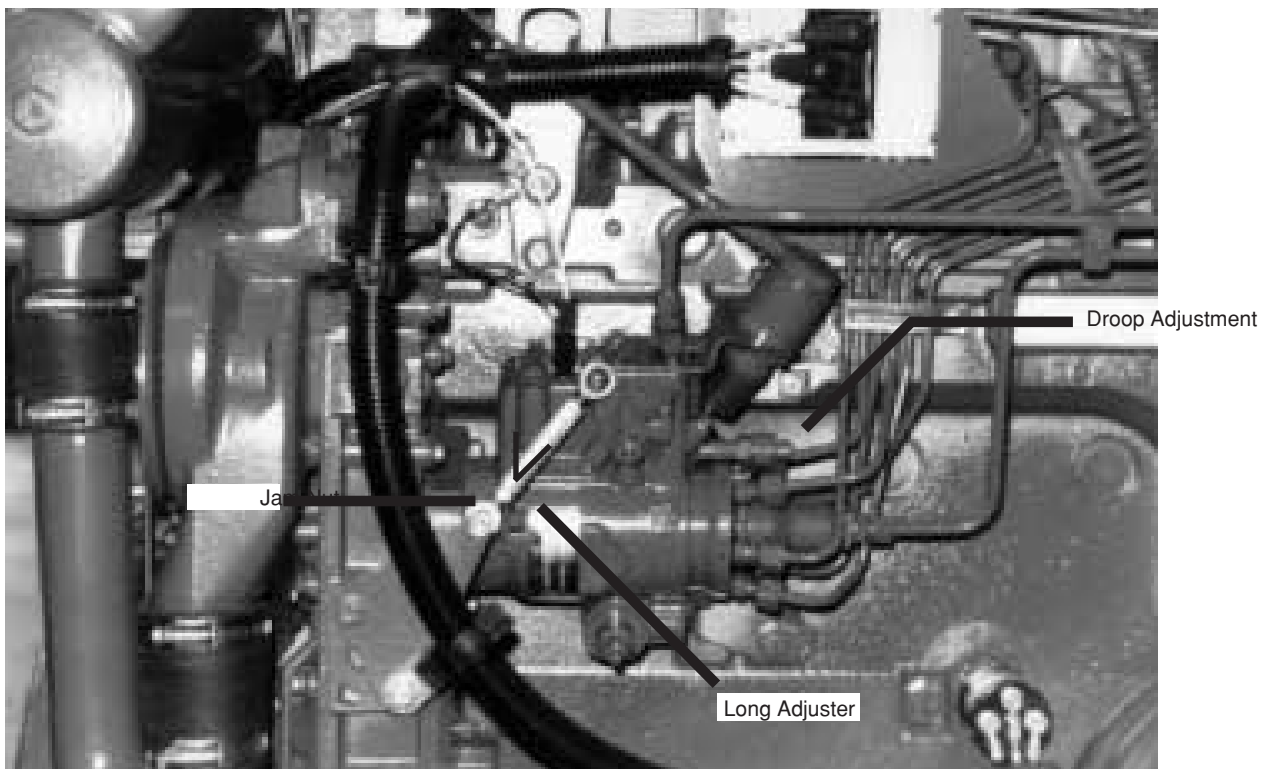

Figure 1 - Governor and Pump Location (Adjustments)
A mechanical governor controls the engine speed. The governor on the PDFP engines is built into the fuel injection pump located on the left side of the engine. Figure 1 shows the governor and pump location on each engine.
A.) This adjustment requires a standard screwdriver and is located on the rear of the governor as shown in Figure 1.
B.) Let the engine warm-up. Loosen the jam nut (Fig. 1).
C.) While observing the instrument panel tach rotate the long adjustor clockwise to lower the RPM and counter clockwise to raise the RPMs, until desired speed is obtained (shown in Figure 1).